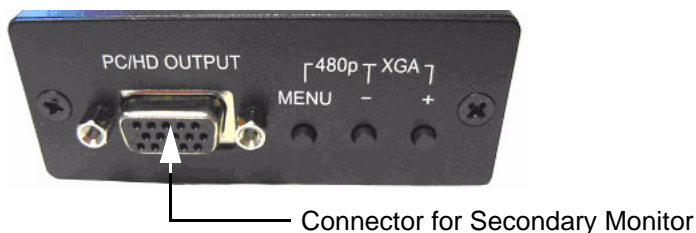

Figure 8-31 Connector for Secondary Monitor
- 8.) Connect your Secondary Monitor to the Image Resizer Box at its **PC/HD OUTPUT** Connector (refer to Figure 8-31 on page 8-27).